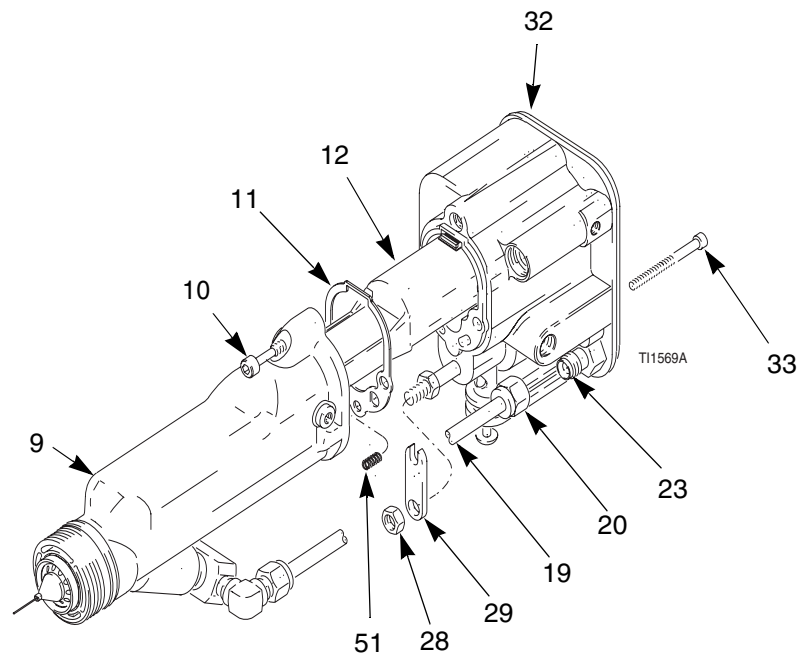

Fig. 30. Barrel Installation
1. Be sure the gasket (11) and grounding spring (51) are in place. Make sure the air holes are aligned properly. Replace if damaged. See FIGURE 30.
2. Place the barrel (9) over the power supply (12) and onto the gun body (32).
4. Assemble the fluid tube (19) into the fluid fitting (23). Ensure that the ferrules (21, 22) are in place. Tighten the nut (20).
5. Install and adjust the actuator arm (29) and jam nut (28). See page 39.
7. Install the gun shroud (2) and air cap, page 34.